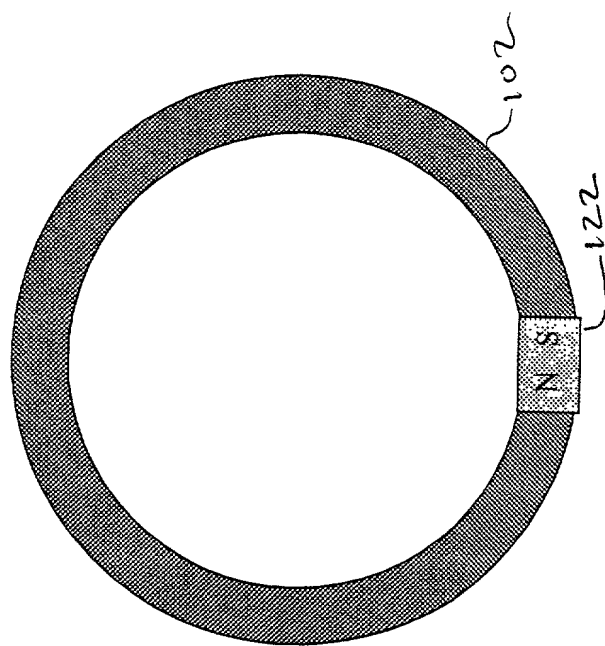
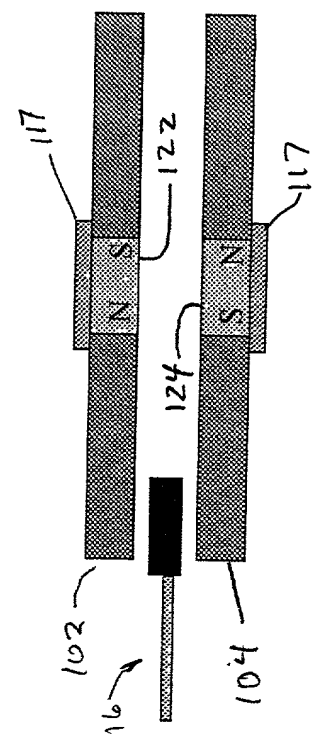

Fig. 40
Fig. 41
FIG. 40 is a perspective view of a ring-shaped magnetic core 102. The core 102 is a toroidal core with a central opening. A magnetic core segment 122 is attached to the outer surface of the core 102. The segment 122 has a North (N) pole and a South (S) pole. The segment 122 is shown in a cross-sectional view, indicating its thickness and the location of the poles. The segment 122 is positioned such that its poles are aligned with the poles of the other magnetic core segments in the assembly shown in FIG. 41.